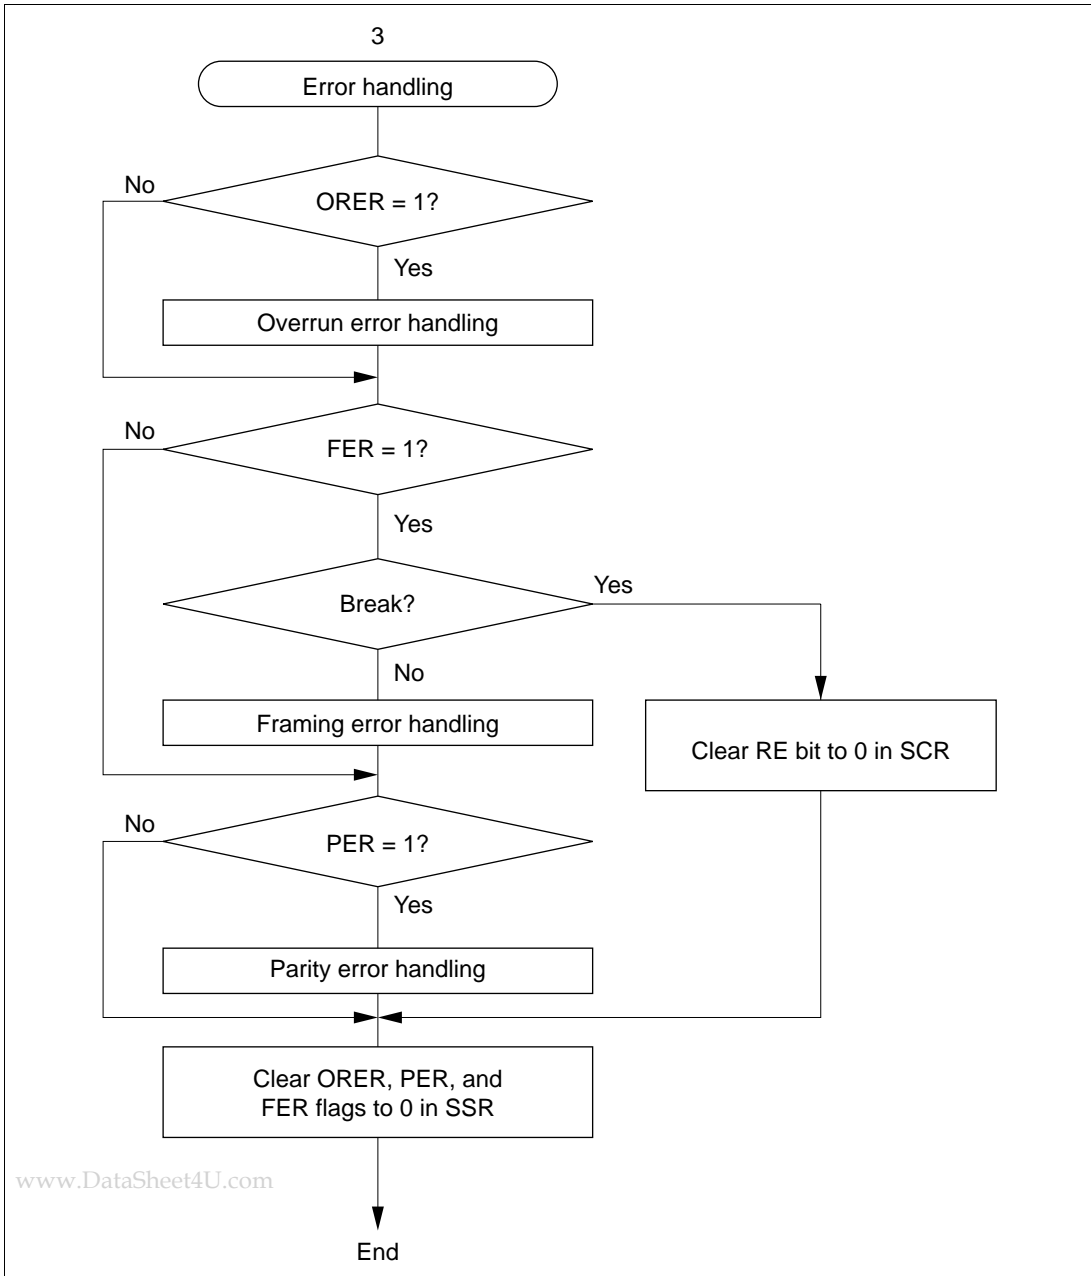

Figure 11-7 Sample Flowchart for Receiving Serial Data (2)
Receiving Serial Data (Asynchronous Mode): Figure 11-7 shows a sample flowchart for receiving serial data and indicates the procedure to follow.
www.DataSheet4U.com **Figure 11-7 Sample Flowchart for Receiving Serial Data (1)**